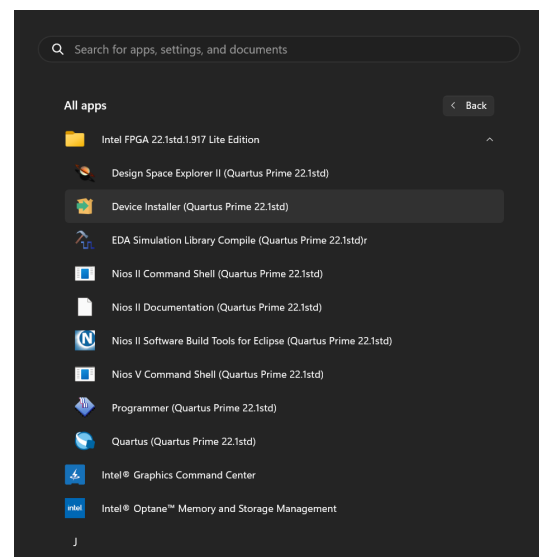

Figure 19: Finding the Quartus device installer in the Windows Start Menu.
- 3) Select "Intel FPGA ..." and then "Device Installer (Quartus ...)" as shown in Figure 19.